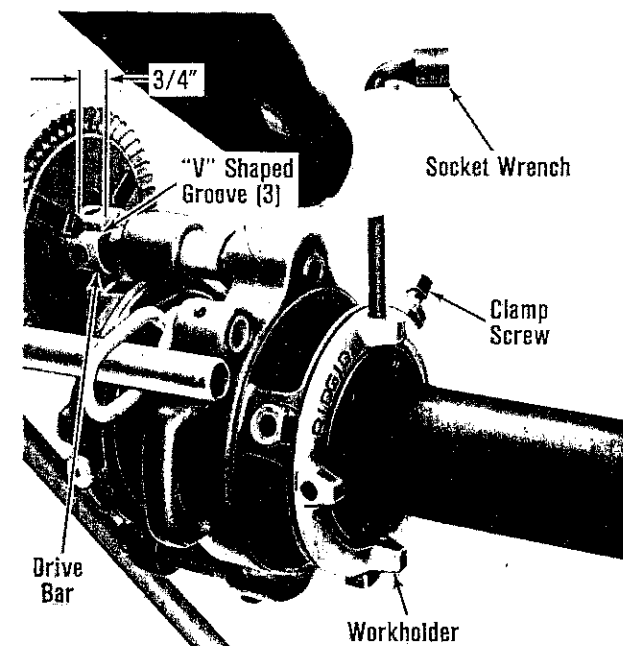

Figure 15. Tightening Workholder on No. 141 Geared Threader.
**Note:** Allow approximately 3/4" of grooves exposed in front of Chuck Jaws (Fig. 15) to allow space for oiling.
6. Insert pipe in Threader and center end of pipe in throat of Dies. Tighten workholder with Socket Wrench (Fig. 15).
7. Tighten Clamp Screw (Fig. 15) securely.
141 only - Loosen Jaw Clamp Screws (Fig. 15), turn Workholder to OPEN position and remove pipe.